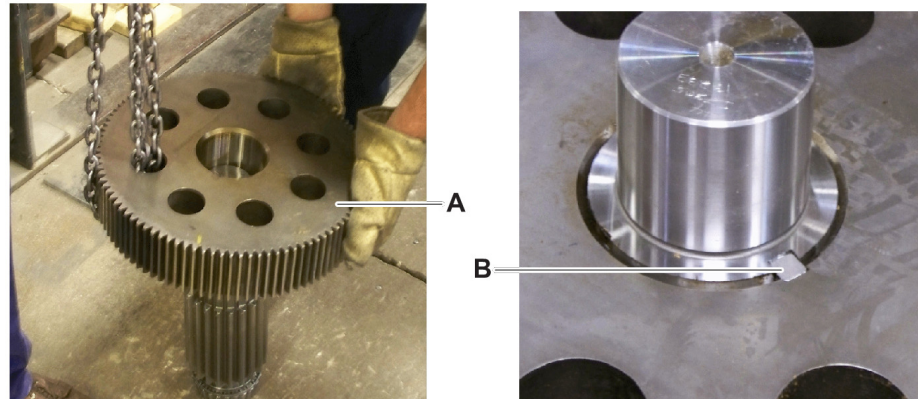

Figure 2
- Put the keys in keyways of the intermediate shafts. Use safety gloves and slide the each hot output gear (Figure 2, item A) carefully over the intermediate shaft until they rest on the shoulders.